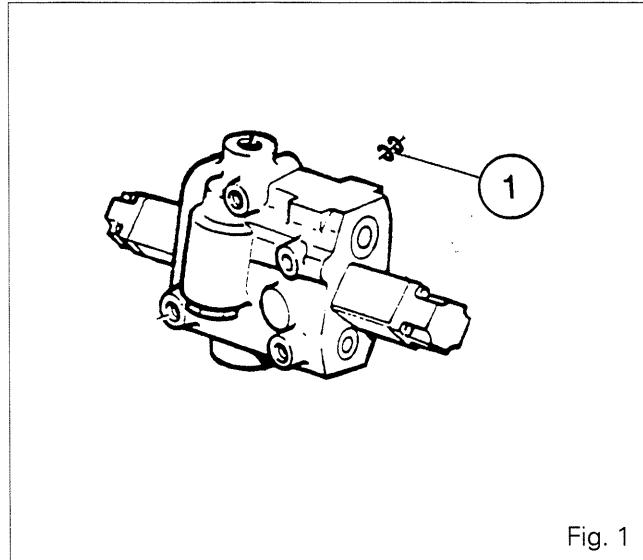

Fig. 1
- Change the O-ring (1) (Fig. 1).